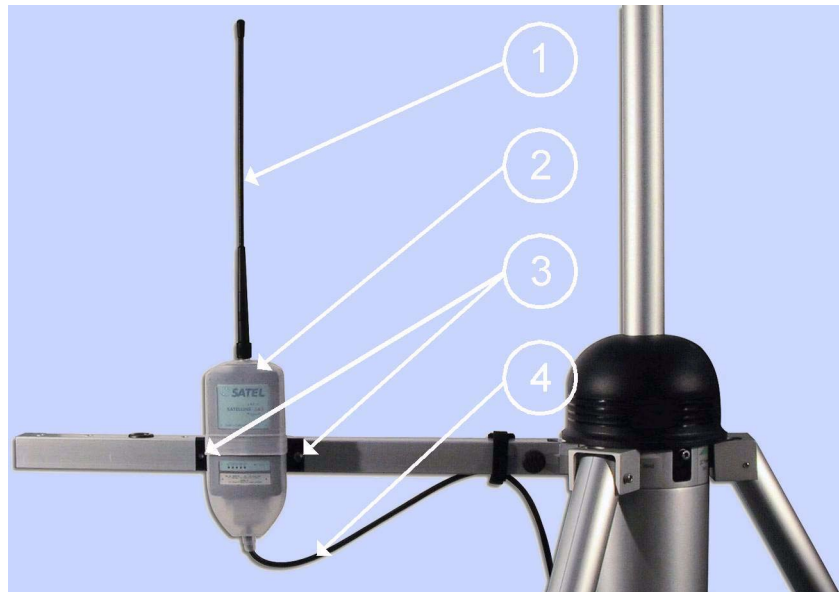

Figure 98 **Installing Radio Modem**
Figure 98 on page 105) against the radio adapter between the two hex screws (2). Lower the radio modem down so that it is secured. Connect the antenna cable (1) and the data/power cable (4).